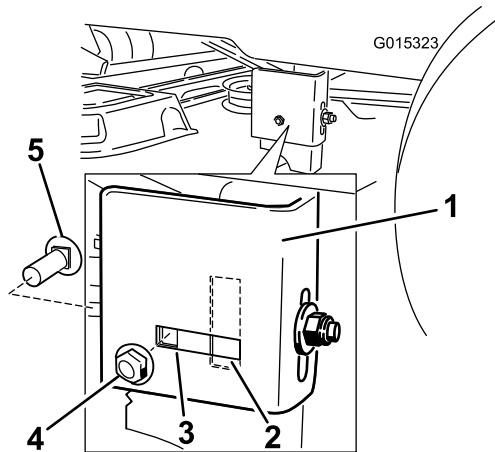

Figure 50
- Move to the left side of the machine. Check if the side carriage bolt is in the fixed or slotted position (Figure 50).
- If the side carriage bolt is in the fixed position, remove the side carriage bolt and side locking nut from the fixed position and install it into the slotted adjustment position (Figure 50).